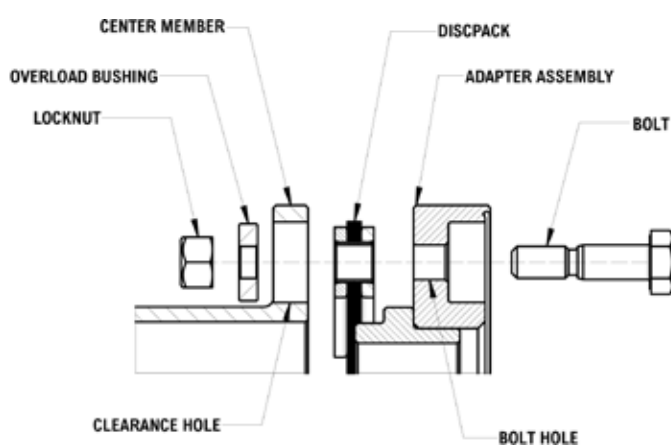

Figure 11A
9.3 Install the disc packs to the adapter first so that the washer heads of the disc pack line up with the bolt holes in the adapter as shown in Figure 11A. Insert the bolts through the adapter bolt holes and disc pack.
9.4 Install an overload bushing onto each bolt, as shown on Figure 11A and 11B.
9.8 Install an overload bushing onto each bolt, as shown on Figure 11A and 11B.